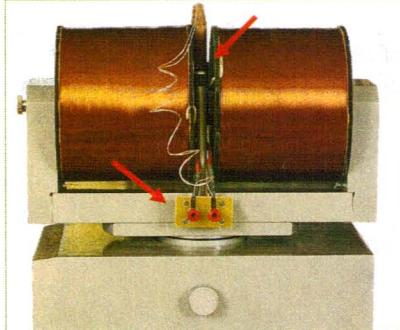

Figure 5
- Fit the mercury lamp into the clip between the pole pieces, pushing it down until the shoulder on the lamp support rests on the top of the clip. Rotate the lamp so that the clear window is perpendicular to the magnet axis. Connect the lamp's supply leads to the two binding posts located on the lower arm of the magnet yoke (see *Figure 5*).